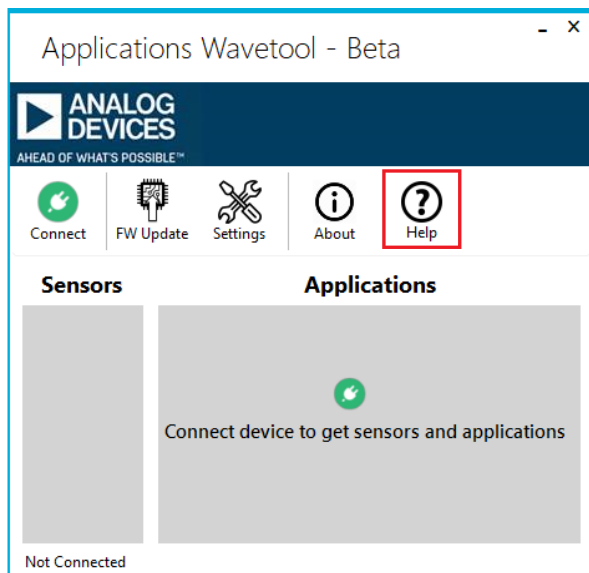

Figure 2. *Applications Wavetool - Beta* Home Screen
1. Open the Wavetool Evaluation Software application file from the directory where it was installed. Click the **Help** button (see Figure 2) on the software home screen.